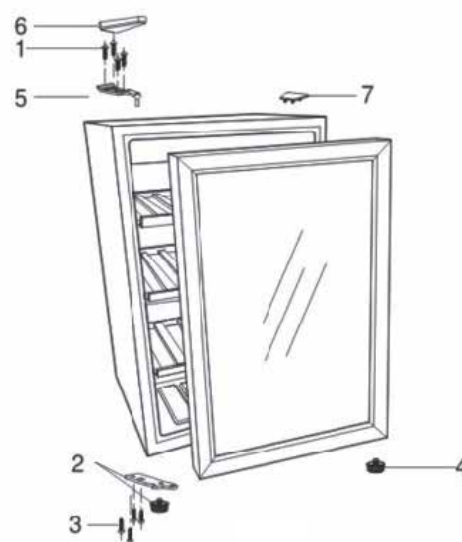

Fig.5
- Remove the cover plate (Fig.5: No.7) covering the upper hinge holes.
- Reverse the direction of lower hinge (Fig.5: No. 2).
- Install the lower hinge, front leg (Fig.5: No. 2) on the lower frame with screws (Fig.5: No. 3).
- Holding the door in the closed position, secure the upper hinge (Fig.5: No. 5) to the door and screw into the frame (Fig.5: No. 1).
- Note: Do not fully tighten the screws (Fig.5: No. 1) until the top of the door is level with the top of the unit.
- Install upper hinge cover (Fig.5: No. 6) over the upper hinge.